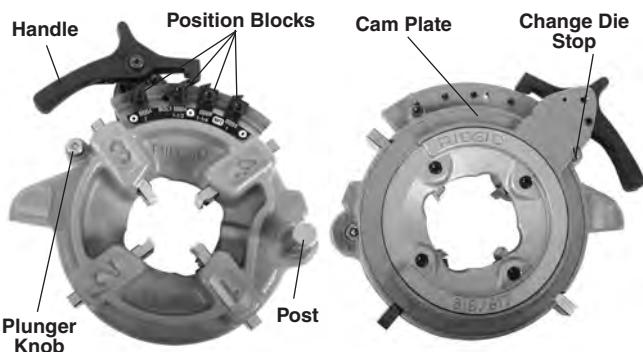

Figure 13 – Semi-Automatic Die Head
2. Depress handle so that cam plate rests against the change die stop (Figure 13). The cam plate/handle assembly is spring loaded and will move when depressed.